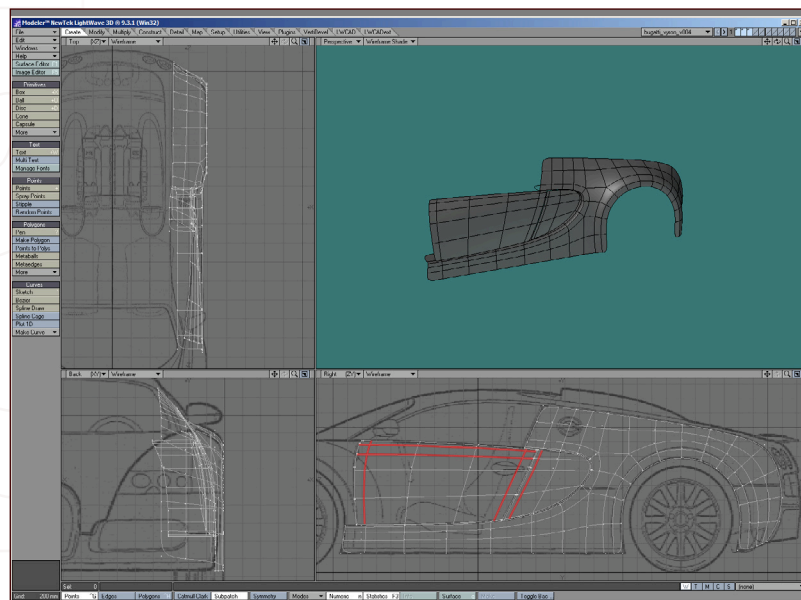

Fig 17
17. Okay, we can actually see some distinct progress towards a Veyron now. Here we have the door, inset panel, and rear quarter panel in place together. Highlighted are the additional cuts added to the door and inset panels. These are added for two reasons (**Fig17**).